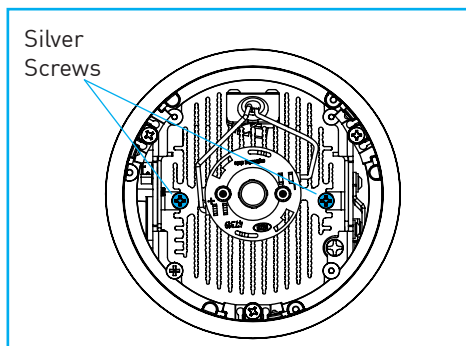

Fig.36
- Using standard Phillips-head screwdriver, remove 2 silver screws from black heat sink to detach LED engine from trim *"Fig.36"*.
- Applying upward pressure to support weight of LED engine, use standard Phillips-head screwdriver, remove 2 silver screws from black heat sink to detach LED engine from trim *"Fig.36"*.